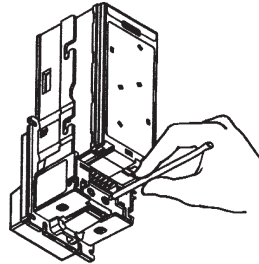

Figure 4
3. **Locate the service button** on the back of the unit (refer to Figure 4). depress the button once to enter coupon set-up mode. Depressing again will exit the mode.